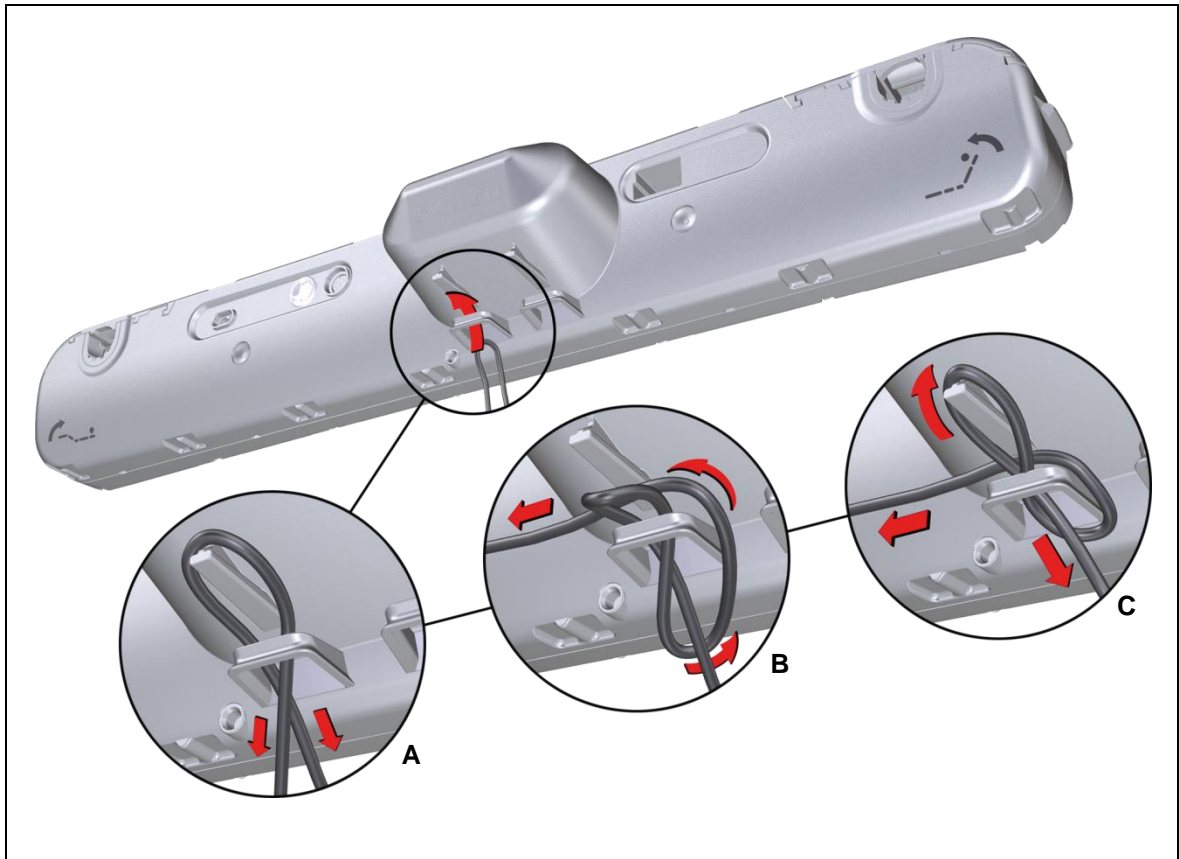

Figure 16 Looping the cable through the strain relief mechanism
- 2 Push the cable in a loop through the strain relief (as shown by **A** in Figure 16).
- 3 Run the right cable strand first under the left strand and then behind and through the loop (as shown by **B** in Figure 16).
- 4 Place the loop over the peg on the drive and pull the loop back slightly (as shown by **C** in Figure 16).